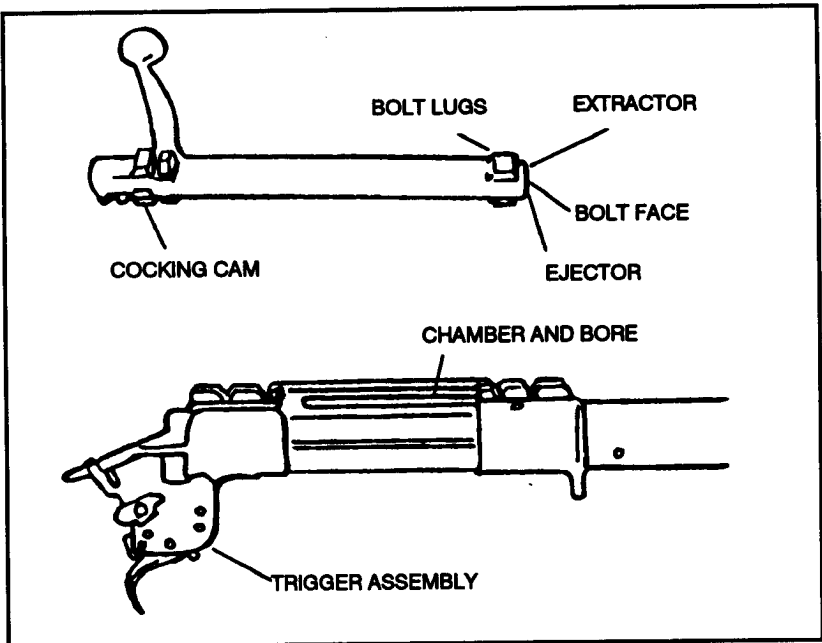

Figure 2-13. Maintenance for storing or using.
e. **Storage.** The M24 SWS should be stored (Figure 2-13) using the following procedures: